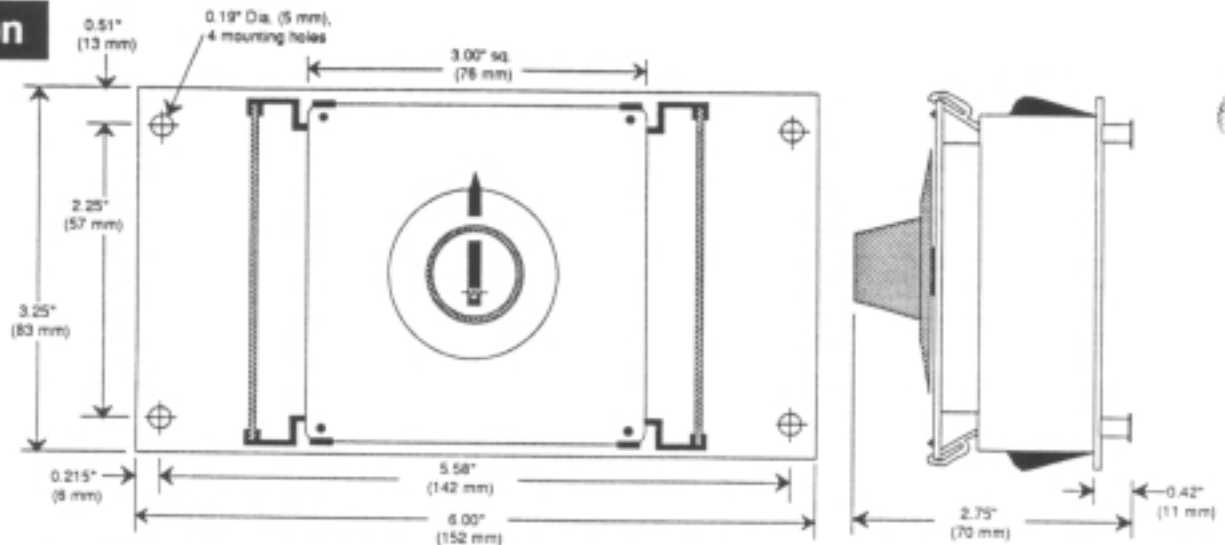

Figure 1 - Series 400 Dimensions
1. Drill four 0.19" (5 mm) diameter holes in desired panel location using the control as a template. See Figure 1.
5. Drill four 0.189" (5 mm) diameter holes in desired panel location. See Figure 1.